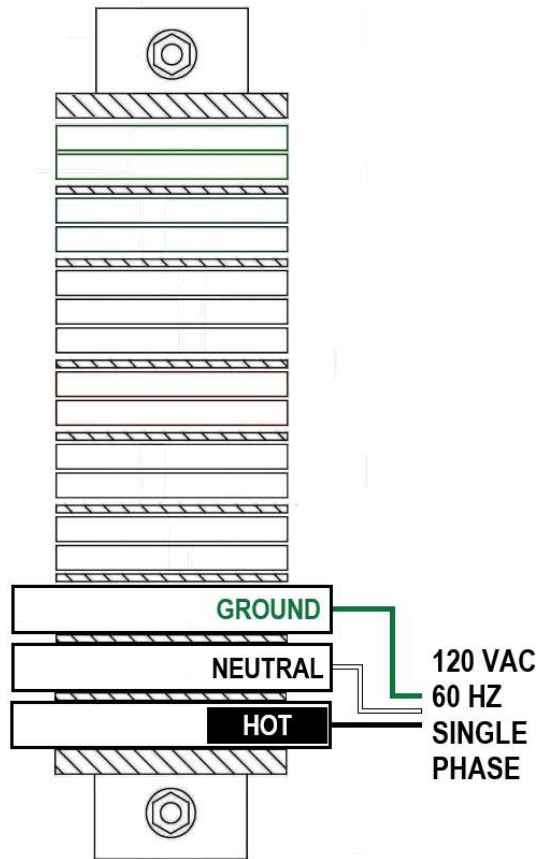

Figure 6 - Wiring Diagram
- Refer to **Figure 6**.
- Connect one (1) power circuit to indicated terminals. Power will be supplied to the **NITROGEN-PAC™**.